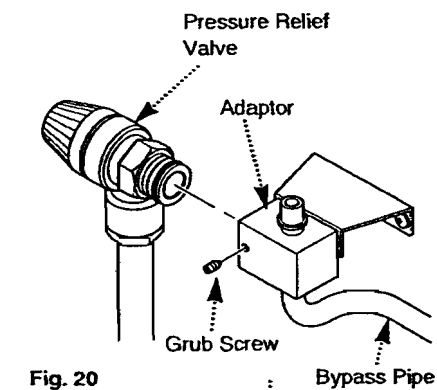

Fig. 20
8.5 Fitting the Pressure Relief Valve and Discharge Pipe (Fig. 20)